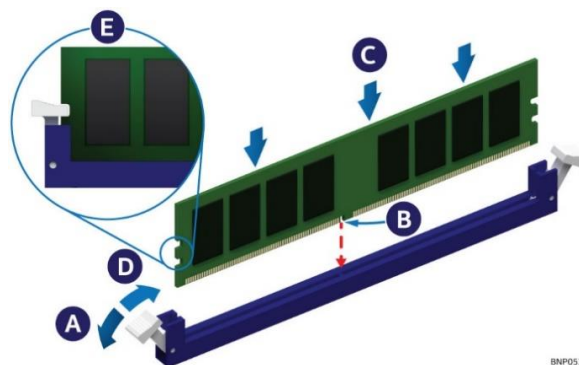

Figure 61. DIMM Installation
6. Install the memory module onto the server board (see Figure 61).